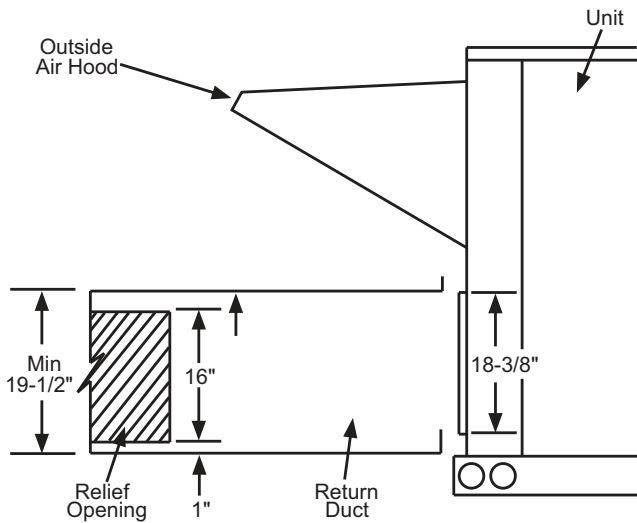

Fig. 23 — Relief Damper
1. Install the field-provided horizontal ductwork onto the unit. Duct height must be at least 19-1/2 in. high. However, the duct can be no taller than the top of the relief opening in the bottom panel, or airflow into the outside air hood will be restricted. (See Fig. 23.)
2. Cut a 16 in. x 36 in. opening in the return duct for the relief damper. (See Fig. 23.)